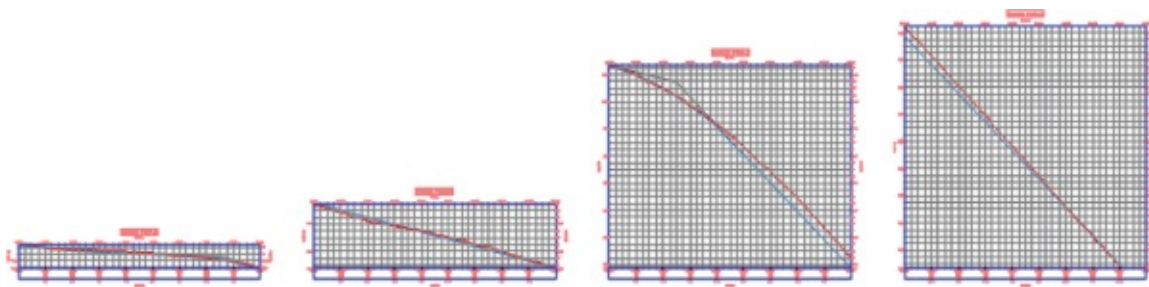

Figure 7.45 The staggered and gapped profile views of the RM2222 alignment
10. Click the Create Profile Views button and pick a point onscreen to create a view similar to Figure 7.45.